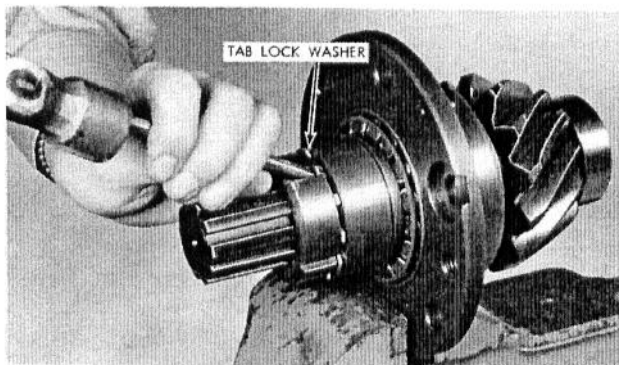

Fig. 53 - Raising Lockwasher Tab
1. Raise the locking tab, as shown in Fig. 53.